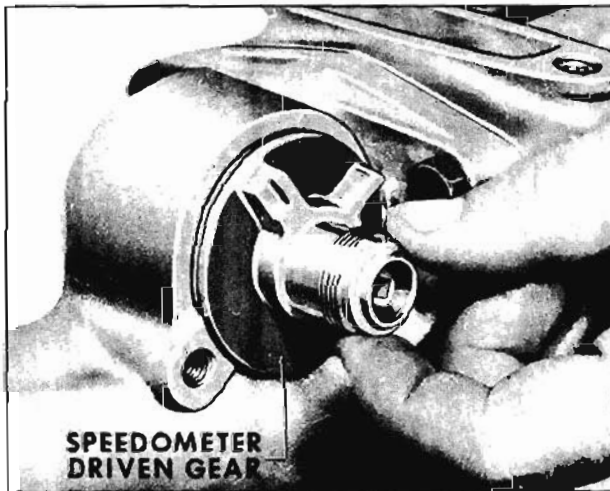

Fig. 6-455 Installing Speedometer Driven Gear
1. Install speedometer driven gear assembly into rear bearing retainer. (Fig. 6-455)